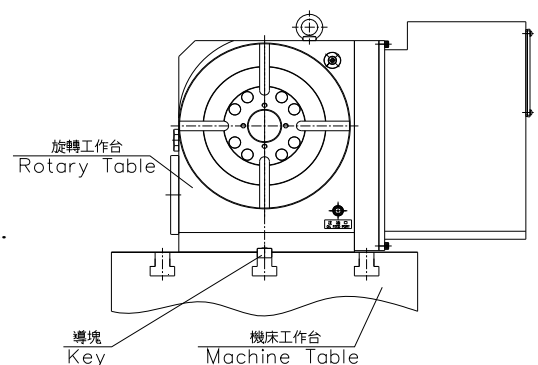

Fig 6-1
(4).Mount the rotary table on the machine center. (see Fig 6-1) .